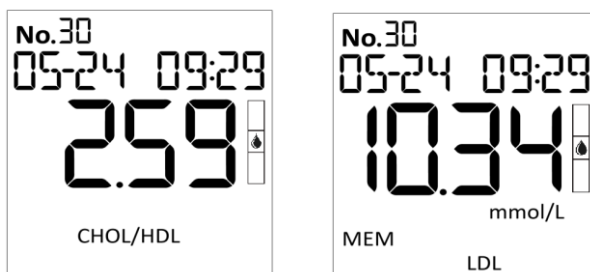

Fig 5.43
➤ CHOL/HDL: Rate of Cholesterol and high-density lipoprotein (Ref Fig 5.43)
- Press power button to view the results, “CHOL” results displayed first, press the right button in sequence to query “HDL” “TRIG” “CHO/HDL” and “LDL” results (Ref Fig 5.42 and Fig 5.43).